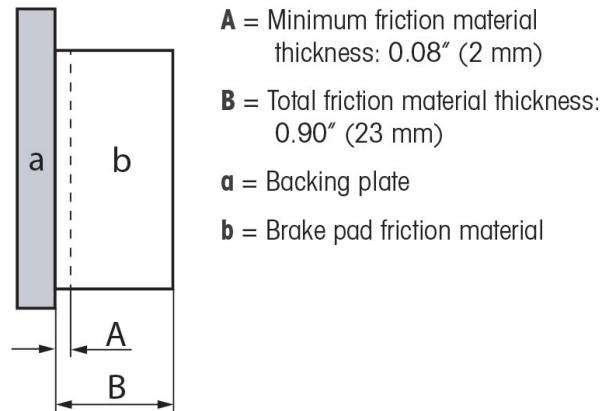

Figure 7: Measuring brake friction material thickness
**To avoid damaging the brake rotor, replace brake pads when friction material thickness (Figure 7, A) is at or close to the minimum. It must not be allowed to become less than 0.08" (2 mm), measured from the backing plate (Figure 7, a).**